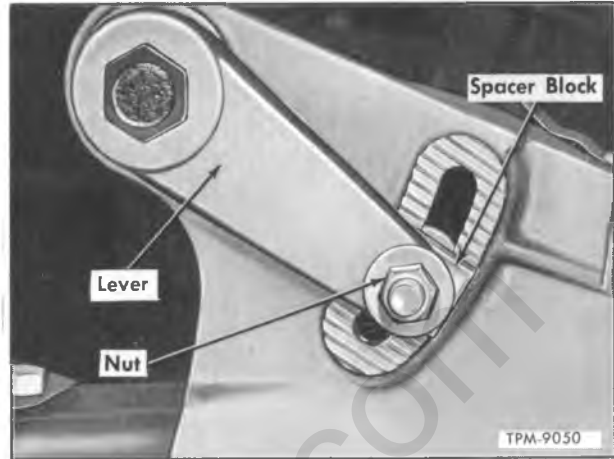

Figure 33—Torsion Bar Tension Adjustment Lever Installed
NOTE: Lever should be located on bar so that opposite end of anchor lever is located near center of serrations on cab bracket (fig. 33).
3. Loosen nut on bolt which attaches the anchor lever and serrated spacer block to the cab frame bracket (fig. 33). Loosen nut only enough for spacer to clear serrations.